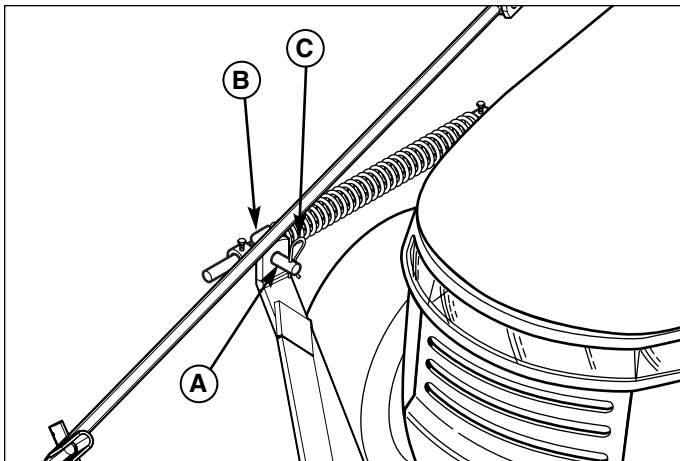

Figure 18. Lift Rod Installation
2. See Figure 18. Insert the rod guide (A) through the hole in the push bar (B), and secure with spring clip (C).